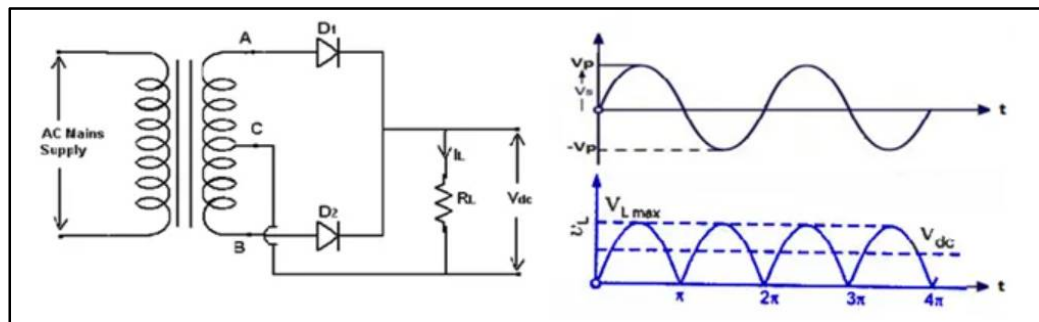

Fig.2.6: Full wave rectifier
- Full Wave Rectifier is a circuit which converts ac signal to dc signal by using two PN junction diodes for rectification purpose as shown in fig.2.6.
- As the output contains only positive continuous series of positive half cycles of alternating voltage i.e., **unidirectional** waves for each input half wave, the circuit is called as **Full wave rectifier**. The input and output wave forms are as shown in fig.2.6.